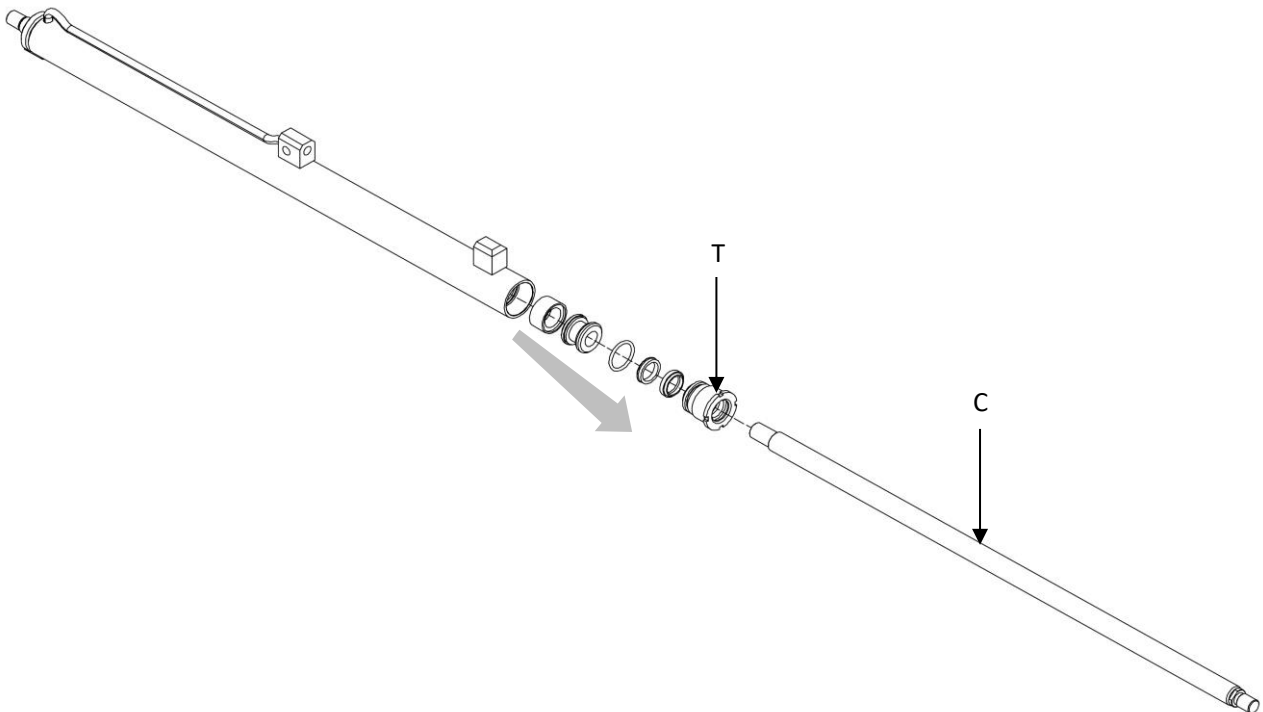

Figure 30
8. Use *Figure 30 as a guide*.